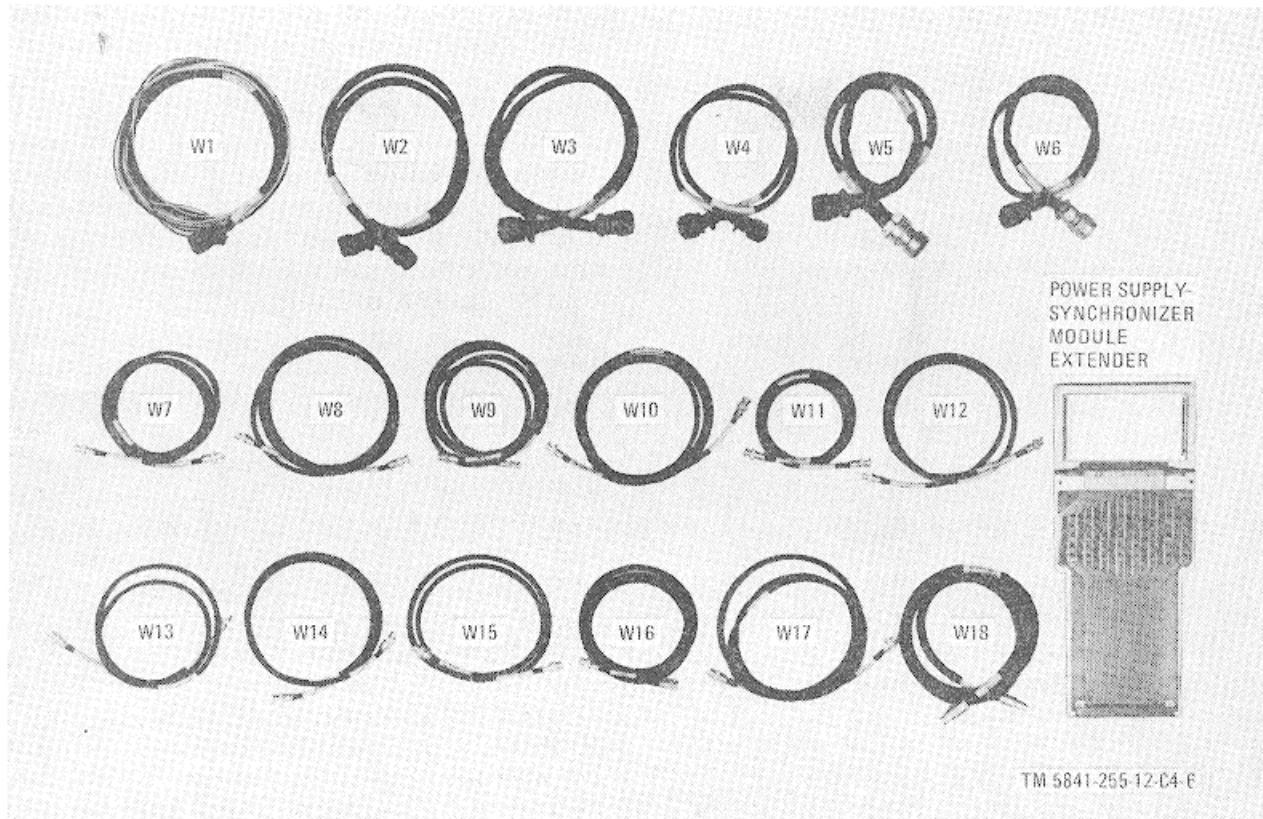

Figure E-6. Test Facilities Kit MK-856A/AKT-18.
E-12. Test Facilities Kit MK-856A/AKT-18 (fig. E-6 and E-6.1)
Test Facilities Kit MK-856A/AKT-18 is the same as Test Facilities Kit MK-856/AKT-18 except for the addition of 18 cables, a module extender, and two cases used for storing the component parts of the test facilities kit. The new cables duplicate the functions of the cables permanently installed in the aircraft for bench testing the AN/AKT-18A. The additional cables, module extender, and cases are identified in figures E-6 and E-6.1 and described in *a* through *u* below.
a. Cable Assembly, Special Purpose, Electrical 30-P06565H (Cable W1) (fig. E-6). Cable W1 is used to connect system power (+28 vdc and 115 vac) to connector 6J1 on the power supply-synchronizer. Cable W1 is an 8-foot long, 5-conductor, rubber-insulated cable terminated on one end with an MS3116F14-5S connector (W1P1) and the other end is unterminated.
b. Cable Assembly, Special Purpose, Electrical 30-P06566H (Cable W2) (fig. E-6). Cable W2 is used to connect data link control connector 7J1 to power supply-synchronizer connector 6J2 and to connect the data link control to a source of panel illumination power. Cable W2 is a 4-foot long, 17-conductor, rubber-insulated cable terminated at one end with an MS3116F14-19S connector (W2P1) and the other end with an MS3116F14-19P (W2P2). Two cable leads from one end of the cable are unterminated for connection to
c. Cable Assembly, Special Purpose, Electrical 30-P06567H (Cable W3) (fig. E-6). Cable W3 is used to connect frequency selector control connector 4J1 to radio transmitter connector 3A1J1 and to connect the frequency selector control to a source of panel illumination power. Cable W3 is a 4-foot long, 23-conductor, rubber-insulated cable terminated at one end with an MS3116F16-26SW connector (W3P1) and the other end with an MS3116F18-32SW connector (W3P2). Two cable leads from one end of the cable are unterminated for connection to panel illumination power source.
d. Cable Assembly, Special Purpose, Electrical 30-P06568H (Cable W4) (fig. E-6). Cable W4 is used to connect radio transmitter connector 3A1J2 to power supply-synchronizer connector 6J4. Cable W4 is a 3-
e. *Cable Assembly, Special Purpose, Electrical 30-P06569H (Cable W5)* (fig. E-6). Cable W5 is used to connect video encoder connector 1J3 to power supply-synchronizer connector 6J3. Cable W5 is a 3-foot long, 9-conductor, rubber-insulated cable terminated at one end with a DM9702-37S connector (W5P1) and at the
f. *Cable Assembly, Special Purpose, Electrical 30-P06570H (Cable W6)* (fig. E-6). Cable W6 is used to connect video encoder connector 1J1 to power supply-synchronizer connector 6J5. Cable W6 is a 3-foot long, 21-conductor, rubber-insulated cable terminated at one end with a DM9702-19S connector (W6P1) and the other end with an MS3116F14-19PW connector (W6P2).
g. *Cable Assembly, Radio Frequency 30-P06571H (Cable W7)* (fig. E-6). Cable W7 is used to connect power supply-synchronizer connector 6J14 to Processor, Radar Signal CM-374/APS-94D connector CP1-P2. Cable W7 is a 6-foot long coaxial cable (RG-62A/U) terminated at both ends with a UG-260F/U connector (W7P1 and W7P2).
h. *Cable Assembly, Radio Frequency 30-P06572H (Cable W8)* (fig. E-6). Cable W8 is used to connect power supply-synchronizer connector 6J13 to Processor, Radar Signal CM-374/APS-94D connector 3J10. Cable W8 is a 6-foot long coaxial cable (RG-62A/U) terminated at both ends with a UG-260F/U connector (W8P1 and W8P2).
i. *Cable Assembly, Radio Frequency 30-P06573H (Cable W9)* (fig. E-6). Cable W9 is used to connect power supply synchronizer connector 6J10 to Processor, Radar Signal CM-374/APS-94D connector 3J12. Cable W9 is a 6-foot long coaxial cable (RG-62A/U) terminated at both ends with a UG-260F/U connector (W9P1 and W9P2).
j. *Cable Assembly, Radio Frequency 30-P06574H (Cable W10)* (fig. E-6). Cable W10 is used to connect power supply-synchronizer connector 6J12 to Processor, Radar Signal CM-374/APS-94D connector 3J13. Cable W10 is a 6-foot long coaxial cable (RG-62A/U) terminated at both ends with a UG260F/U connector (W10P1 and W10P2).
k. *Cable Assembly, Radio Frequency 30-P06575H (Cable W11)* (fig. E-6). Cable W11 is used to connect power supply-synchronizer connector 6J6 to video encoder connector 1J4. Cable W11 is a 4-foot long coaxial cable (RG-62A/U) terminated at both ends with a UG-260F/U connector (W11P1 and W11P2).
l. *Cable Assembly, Radio Frequency 30-PP06576H (Cable W12)* (fig. E-6). Cable W12 is used to connect power supply-synchronizer connector 6J7 to video encoder connector 1J5. Cable W12 is a 4-foot long coaxial cable (RG-62A/U) terminated at both ends with a UG-260F/U connector (W12P1 and W12P2).
m. *Cable Assembly, Radio Frequency 30-P06577H (Cable W1V3)* (fig. E-6). Cable W13 is used to connect power supply-synchronizer connector 6J8 to video encoder connector LJ6. Cable W13 is a 4-foot long coaxial cable (RG-62A/U) terminated at both ends with a UG-260F/U connector (W13P1 and W13P2).
n. *Cable Assembly, Radio Frequency 30-P06578H (Cable W14)* (fig. E-6). Cable W14 is used to connect power supply-synchronizer connector 6J16 to radio transmitter connector 3ALJ3. Cable W14 is a 4-foot long coaxial cable (RG-62A/U) terminated at both ends with a UG-260F/U connector (W14P1 and W14P2).
o. *Cable Assembly, Radio Frequency 30-P06579H (Cable W15)* (fig. E-6). Cable W15 is used to connect power supply-synchronizer connector 6J15 to the video encoder connector 1J8 (CP2). Cable W15 is a 4-foot long coaxial cable (RG-62A/U) terminated at both ends with a UG-260F/U connector (W15P1 and W15P2).
p. *Cable Assembly, Radio Frequency 30-P06580H (Cable W16)* (fig. E-6). Cable W16 is used to connect CP2-P2 (test) on the video encoder to the oscilloscope (OS197/AKM-2A) vertical input
q. *Cable Assembly, Radio Frequency 30-P06581H (Cable W17)* (fig. E-6). Cable W17 is used to connect video encoder connector IW9 (slow sync) to the oscilloscope (OS-197/AKM-2A) EXT. TRIGGER connector. Cable W17 is a 6-foot long coaxial cable (RG-62A/U) terminated at both ends with a UG-260F/U connector (W17P1 and W17P2).
r. *Cable Assembly, Radio Frequency 30-P06582H (Cable W18)* (fig. E-6). Cable W18 is used to connect radio transmitter connector 3A3J1 to antenna load connector J1. Cable W18 is a 5-foot long coaxial cable (US-214/U) terminated at both ends with a UG-21H/U connector (W18P1 and W18P2).
s. *Extender, Module 01-P06527H (fig. E-6)*. This module extender is a dummy module which may be plugged into the slot normally occupied by a functional module in the power supply-synchronizer. The functional module is then plugged into the module extender to permit observation and dynamic checks on the power supply-synchronizer while the equipment continues to operate.